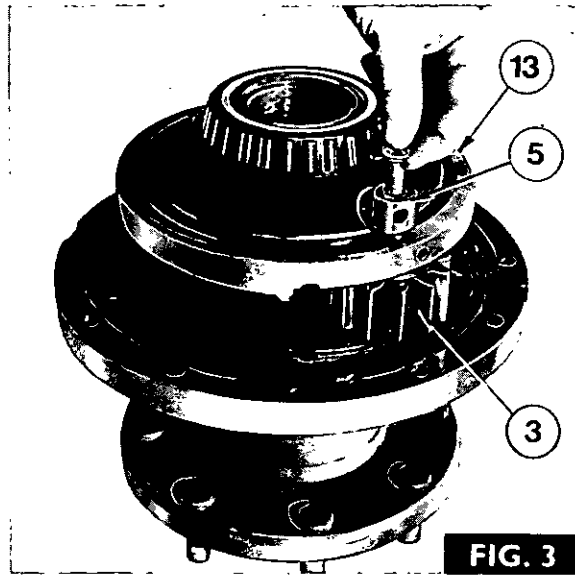
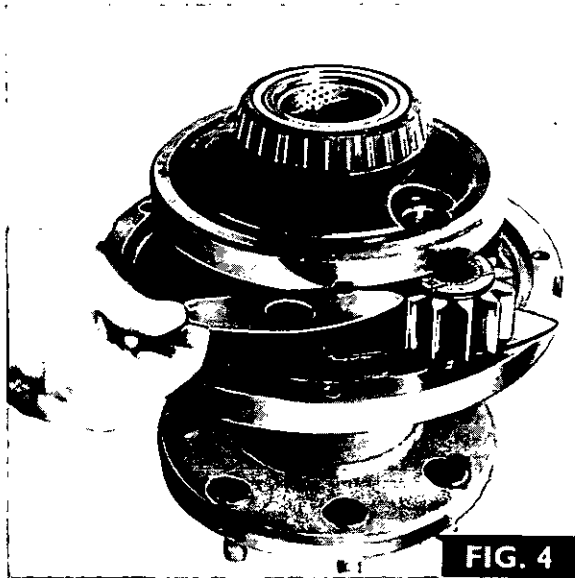

FIG. 3
FIG. 4
2. Fig. 3. If only the sun gear is to be serviced, remove only the planet gear (3) located in the large aperture in the hub (13). To remove a planet gear, drive out the roll pin (1) from the epicyclic hub, then fit a  $\frac{5}{16}$  UNF bolt to the tapped hole in the planet gear shaft.
3. Carefully withdraw the shaft (5) endeavouring not to dislodge the needle rollers (4). Remove the  $\frac{5}{16}$  UNF bolt.
4. Fig. 4. Remove the thrust washers (6) and the planet gear (3).